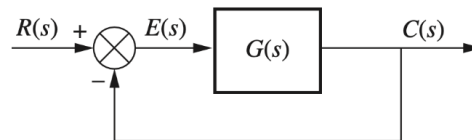

FIGURE P9.1
32. Design a PI controller to drive the step-response error to zero for the unity feedback system shown in Figure P9.1, where